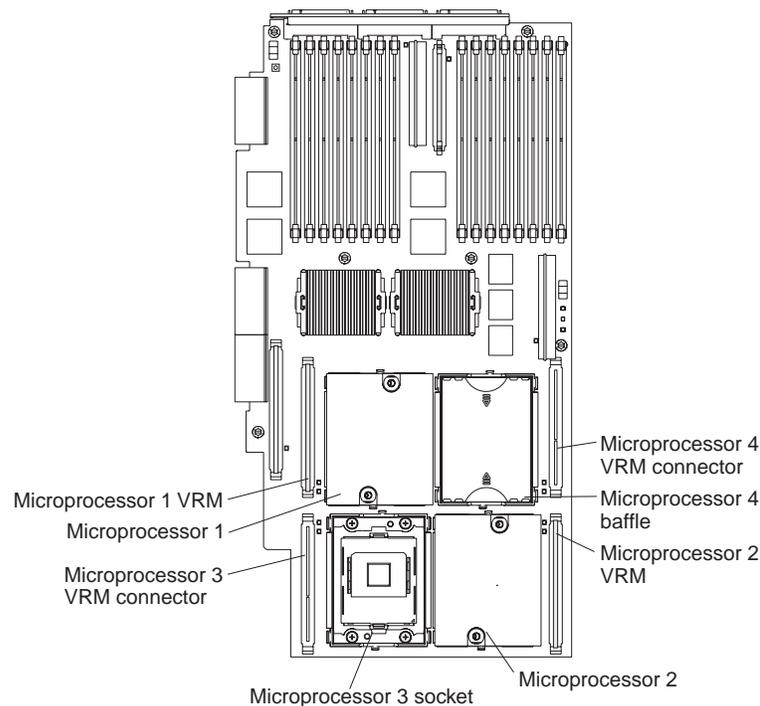

Figure 42. Microprocessor connector and component locations
- Intel Xeon DP microprocessors are supported in microprocessor sockets 1 and 4 only. Intel Xeon MP microprocessors are supported in microprocessor sockets 1, 2, 3, and 4. Figure 42 shows the location of the startup microprocessor and its VRM on the system board. It also shows the microprocessor baffles and the VRM slots for the other microprocessor sockets.